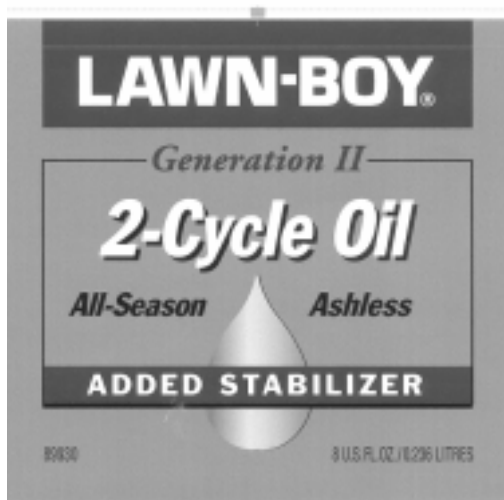

Figure 4
Use only Lawn-Boy Generation II 2-Cycle Oil (Fig. 4) or an equivalent premium grade, NMMA TCW III-certified two-cycle ashless oil.
Add Lawn-Boy Generation II 2-Cycle Oil (Fig. 4) or an equivalent oil to fresh, unleaded gasoline according to the chart below:
2. Add the full amount of Lawn-Boy Generation II 2-Cycle Oil (Fig. 4) or an equivalent oil to the gasoline.
**IMPORTANT:** Do not use fuel additives except a fuel stabilizer during storage. Do not use fuel stabilizers with an alcohol base such as ethanol, methanol, or isopropanol. You do not need a stabilizer if you use Lawn-Boy Generation II 2-Cycle Oil (Fig. 4).